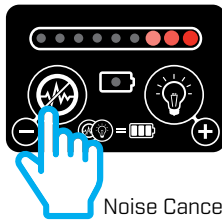

Figure 19: Noise Cancel
- a. Holding the coil stationary and at least 600 mm (24 in) above the ground **press and hold for two seconds** the Noise Cancel button (see Figure 19).